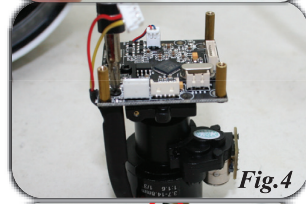

Fig.4
Step 4: Now remove the screw on the backside of the CMOS board that is holding the photoresistor (black shrink hose) and replace it with the shorter one from your upgrade-pack. (Fig.4)